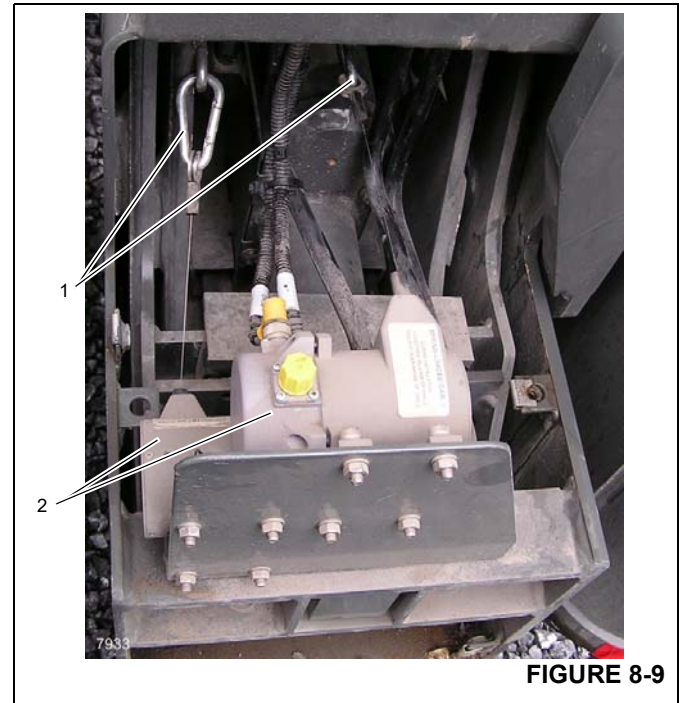

FIGURE 8-9
2. Remove the OMS string potentiometer spring clip (1) (Figure 8-9) from the attaching point on the outrigger beam.
1. Install string potentiometer inside outrigger beam (Figure 8-9).
3. Attach the OMS string potentiometer spring clip (1) to the attaching point on the outrigger beam.